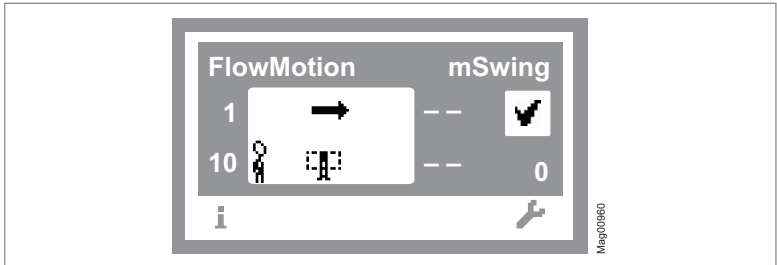

Fig. 14: Example "Operational view"
12. Press the left button «» repeatedly until the operational view is displayed again. Page 39, Fig. 14.